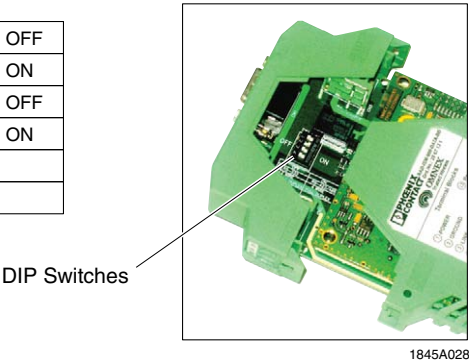

Figure 3-5. DIP Switch Settings
2. Using a slotted screwdriver, adjust the DIP switches according to the labels next to them. See Figure 3-5.